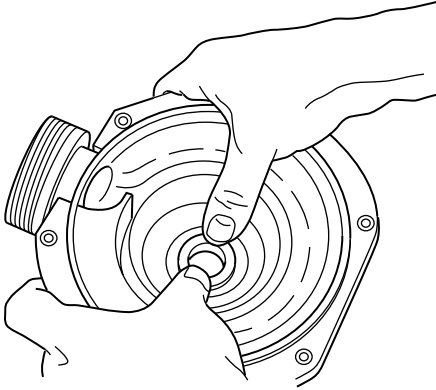

Figure 5
1. Ceramic seat must be clean and free of dirt, grease, dust, etc. Wet rubber cup gasket of ceramic seat with **small** amount of water; press into cavity firmly and squarely with finger pressure (Figure 5).